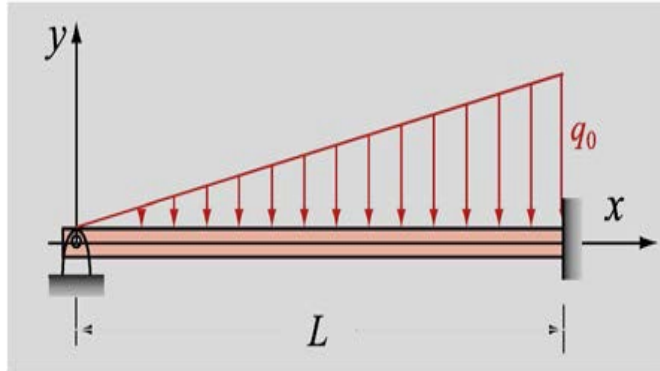

Figure 4: Figure for Problem 8: Simply-supported beam at left end and clamped at right end.
8. A 30 [ft]-long uniform beam is simply supported at the left end ($x = 0$) and clamped at the right end ($x = L$). The beam is subjected to the triangular load shown (see Fig. 4 for reference). The deflection of the beam is given by the differential equation: